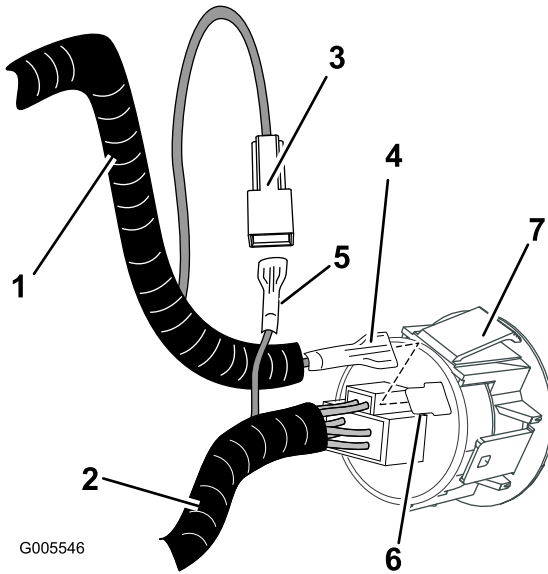

Figure 6
7. Install the single female terminal at the end of the hour meter wiring harness to the open terminal on the base of the ignition switch (Figure 6).
8. Install the single wire from the wiring harness removed previously to the enclosed male terminal on the hour meter wiring harness to complete the circuit (Figure 6).